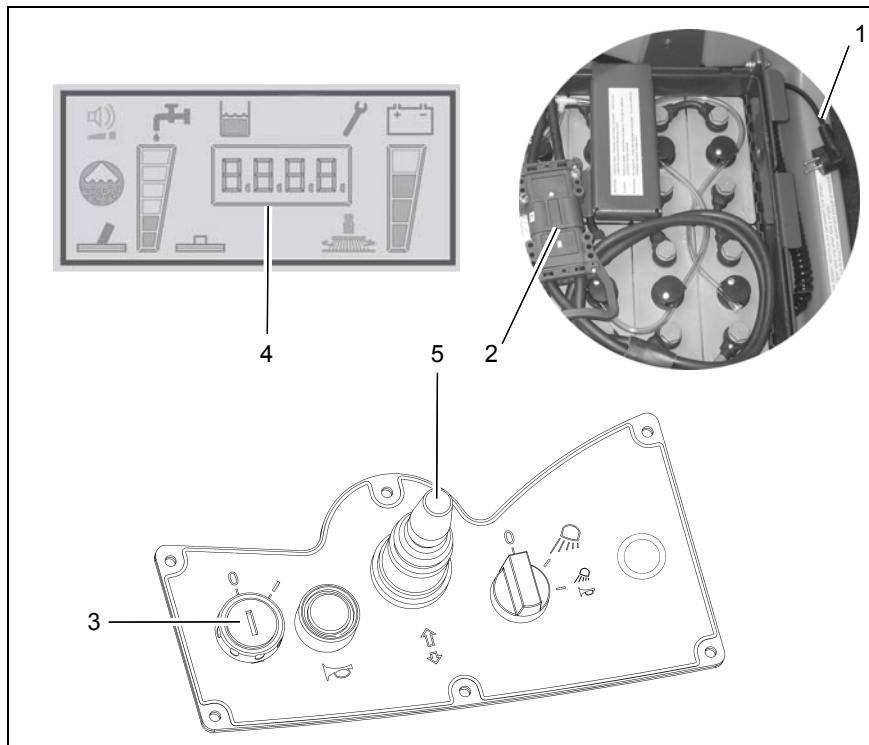

Fig. 12
1. Pull the power plug (Fig. 12/1) from the socket and place it in the holding recess.
3. Switch on the vehicle with the key switch (Fig. 12/3) and set the required direction using the driving direction selection switch (Fig. 12/5). The operating hour counter (Fig. 12/4) displays the software version, the last service code (if applicable) and operating hours in succession. Service code table, refer to Section 2.4.